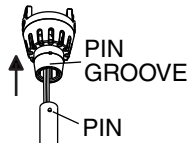

Fig. 8
3. Guide fixture wire through metal stem. Insert stem into fixture head by aligning pin in stem with groove in fixture head and press firmly until you hear a click. (Fig. 8)